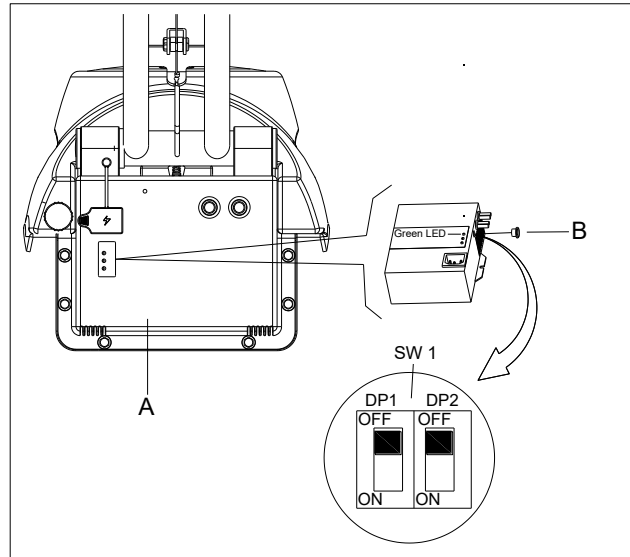

Figure 4.1
1. Turn off the machine and disassemble the cover (A as Figure 4.1) from the machine. Then remove the round black cap located on the front side of the charger (B as Figure 4.1). You will find a set of dipswitches (SW1) in the charger.